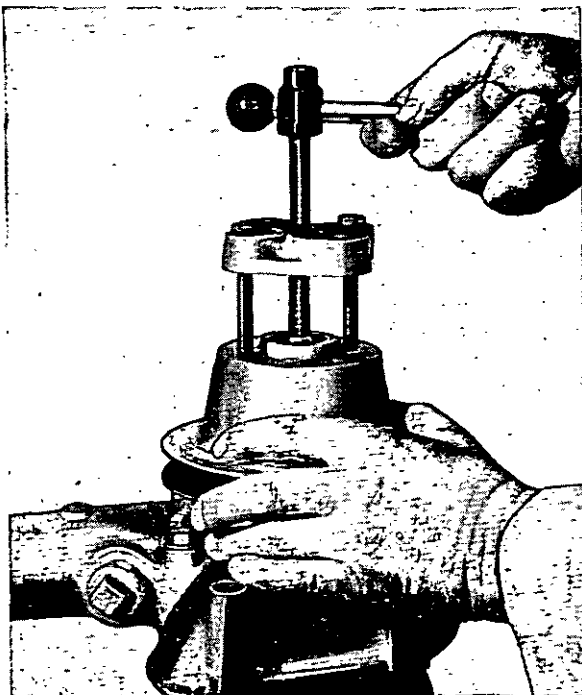

Fig. L.3. Removing Water Pump Pulley
1. Remove the nut and washer securing the water pump pulley and withdraw the pulley from the shaft (Fig. L.3), also the driving key.